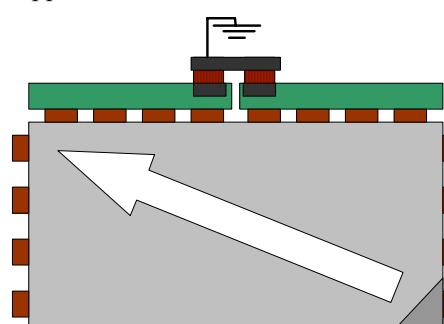

Fig.3 Direction peeled off
- The protection film should be peeled as Fig.3